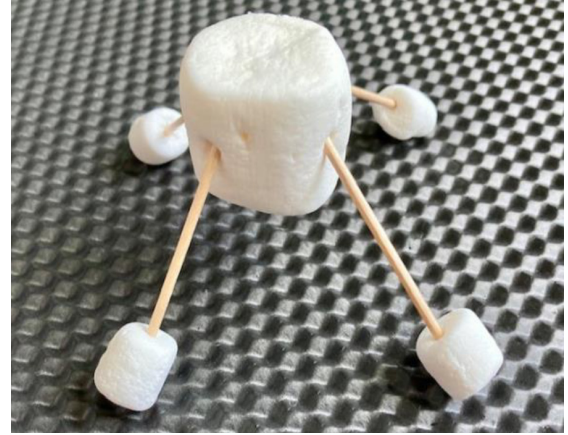

Figure 2. Small marshmallows are added on to the ends of the four toothpicks.
- Place a small marshmallow at the end of each of the four toothpicks as shown in Figure 2. These make the ends of the legs rounded, just like on Ingenuity. The rounded ends of the legs help the helicopter sit firmly, even on mildly uneven ground.